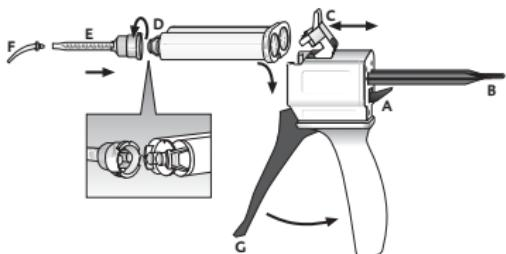

Fig. 1
1. Push up the lever [Fig. 1, Pos. A] at the back of the Automix-Dispenser and pull back the slide [Fig. 1, Pos. B] completely.
2. Lift up the plastic lever [Fig. 1, Pos. C], insert the cartridge and lock it using the plastic lever [Fig. 1, Pos. C].
1. Remove the cartridge cap [Fig. 1, Pos. D] or used mixing tip by turning it 90° counterclockwise, and discard it.
2. Attach a new mixing tip [Fig. 1, Pos. E].
4. Attach an intraoral tip [Fig. 1, Pos. F].
- The material is mixed in the mixing tip by pulling the trigger [Fig. 1, Pos. G] of the Automix dispenser and it is then applied directly.
2. Lift up the plastic lever [Fig. 1, Pos. C] and remove the cartridge.